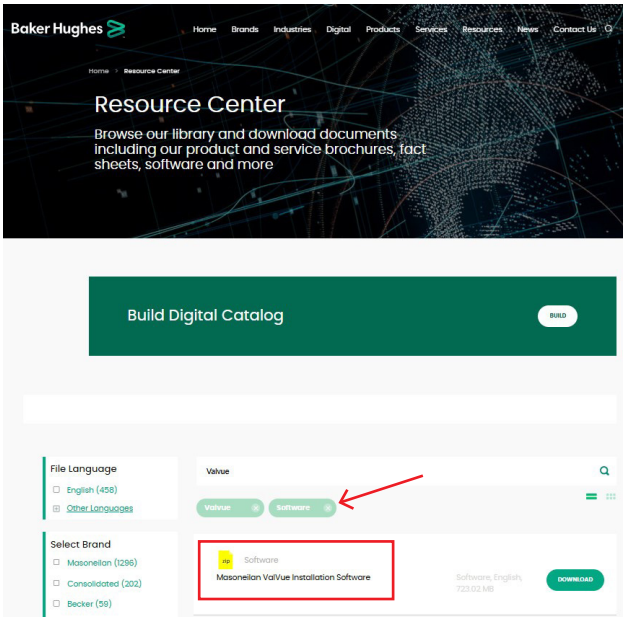

Figure 25 - Resource Center: Search for ValVue
- 1. Go to the Resource Library (<https://valves.bakerhughes.com/resource-center>) and enter ValVue in the search field (arrow in Figure 25).
The results appear in (red box in Figure 25).